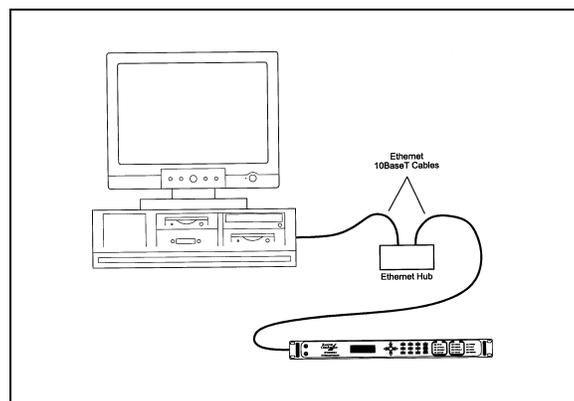

Figure 1. Ethernet Connection
7. Turn on the unit. The unit is now ready to connect to the computer. Connect the RJ45 cable from the OM-20 to the computer/router/bridge as illustrated in Figure 1.